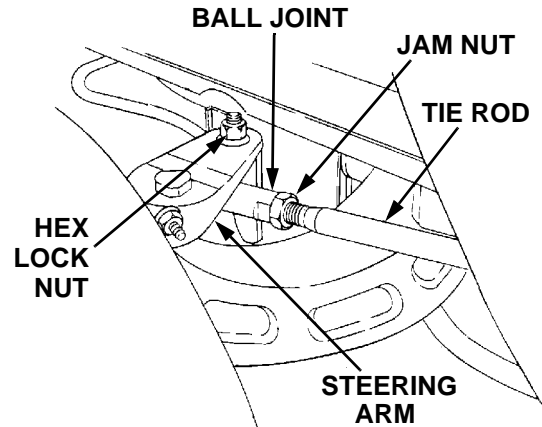

Figure 14
5. Disconnect the front ball joints from the steering arms by removing the hex lock nuts (Refer to Figure 14). Manually move each wheel to achieve the required toe-in *and* equal D measurements.
6. Loosen the jam nuts from the ball joints (See Figure 14).